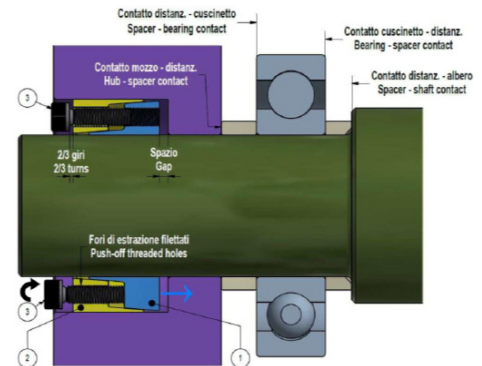

Fig. 2
2. For ease of installation, locking rings shall be disengaged (fig. 2). Loosen all screws by two/three turns; then transfer and hand-tighten at least two screws into the push-off threaded holes in the outer ring.
3. Insert Locking Assembly into the hub bore and make it slide onto the shaft, making sure that connected components are positioned as required. **Inner and outer rings shall be completely supported by shaft respectively hub bore (fig. 2). The rear face of the hub shall be in full contact with the adjacent element; the elements adjacent to the hub shall be axially fixed on the shaft (fig. 2).** At this point, relocate the screws used to disengage the locking rings. Installation into hubs with shoulder requires a few mm's gap between inner ring and shoulder (fig. 2).